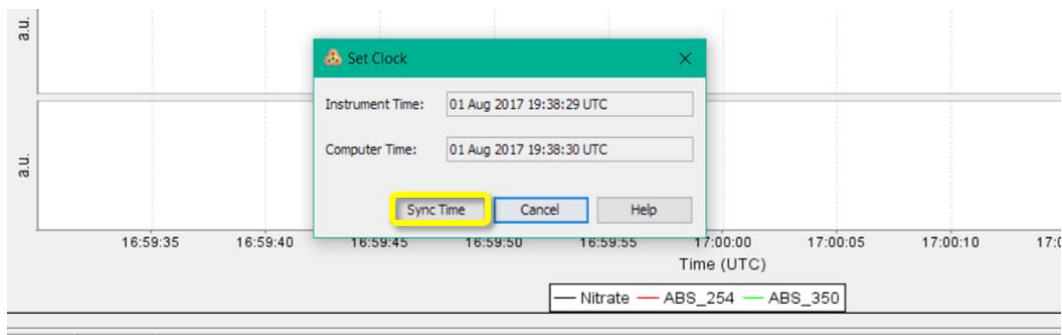

Figure 63. Click "Sync Time" to Synchronize SUNA Internal Clock
2. A **Set Clock** window opens. Click “Sync Time” (the SUNAcom software automatically converts your computer time to UTC). See Figure 63.